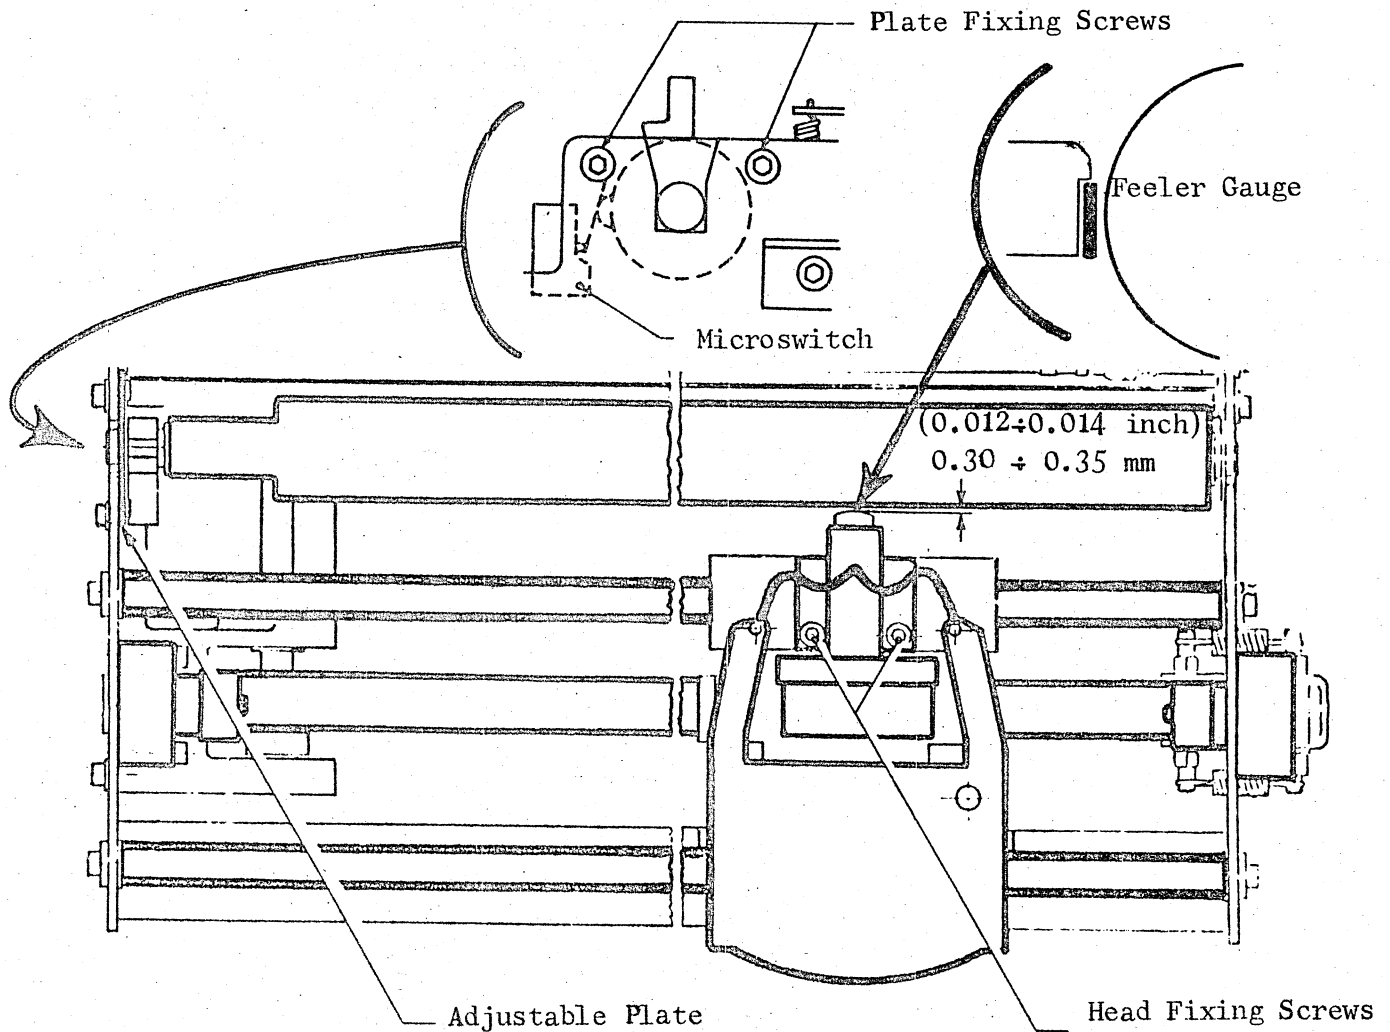

Fig. 8.8
- . Loosen the two Allen screws fixing the head to the carriage (see fig. 8.8).
- . Insert a 0.30 mm (0.12 inch) blade between head and roller. Tighten the two screws by pressing the head against the roller (see fig. 8.8).
- . Loosen the two Allen screws fixing the head to the carriage (Refer to fig. 8.8).
- . Insert a 0.30 mm (0.012 inch.) blade between head and roller. Tighten the two screws by pressing the head against the roller. Trace in fig. 8.8 the exact point in which the measure must be checked.
- . Loosen the two msw fixing screws (Refer to fig. 8.8).